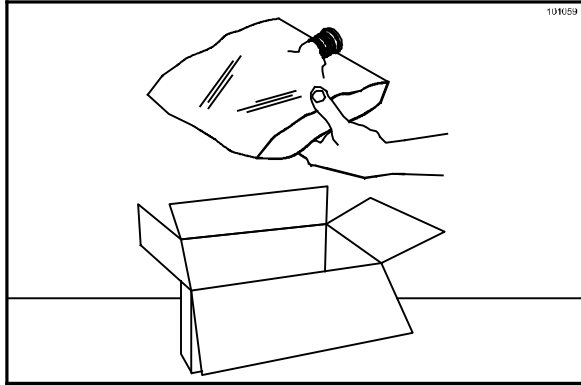

Figure 27
- Remove the bag of product from the box. (See Figure 27.)